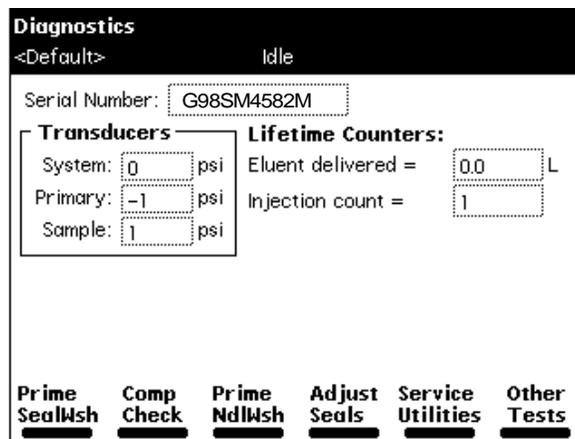

Figure 2-12 Diagnostics Screen
1. Press the **Diag** screen key in the Main screen. The Diagnostics screen appears (Figure 2-12). Refer to the *Waters 2690 Separations Module Operator's Guide*, Section 8.3, Performing Main Diagnostics, for more information on the Diagnostics screen.
2. Press the **Diag** screen key in the Main screen. The Diagnostics screen appears (Figure 2-12).